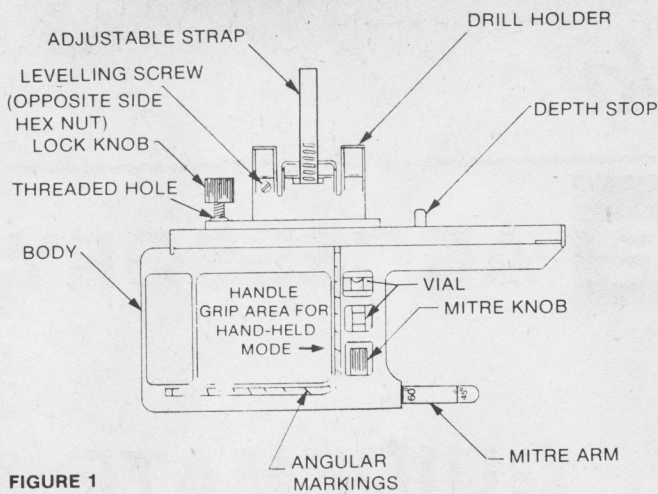

FIGURE 1
6. When using the Guidemate to drill overhead, do not let go of the drill until you have the Guidemate below shoulder height. At this point, tighten the lock knob so the drill holder does not slide out of the Guidemate body. Fig. 1.
Figure 1 shows the basic parts of your Guidemate. Study Figure 1 before going through the setup procedure below.
- (b) Take the #8-32 screw, #8 hex nut and assemble on the drill holder in location shown in Fig. 1. Leave the screw loose at this point.
- (c) Screw in the lock knob into the threaded hole on the drill holder. Fig. 1.